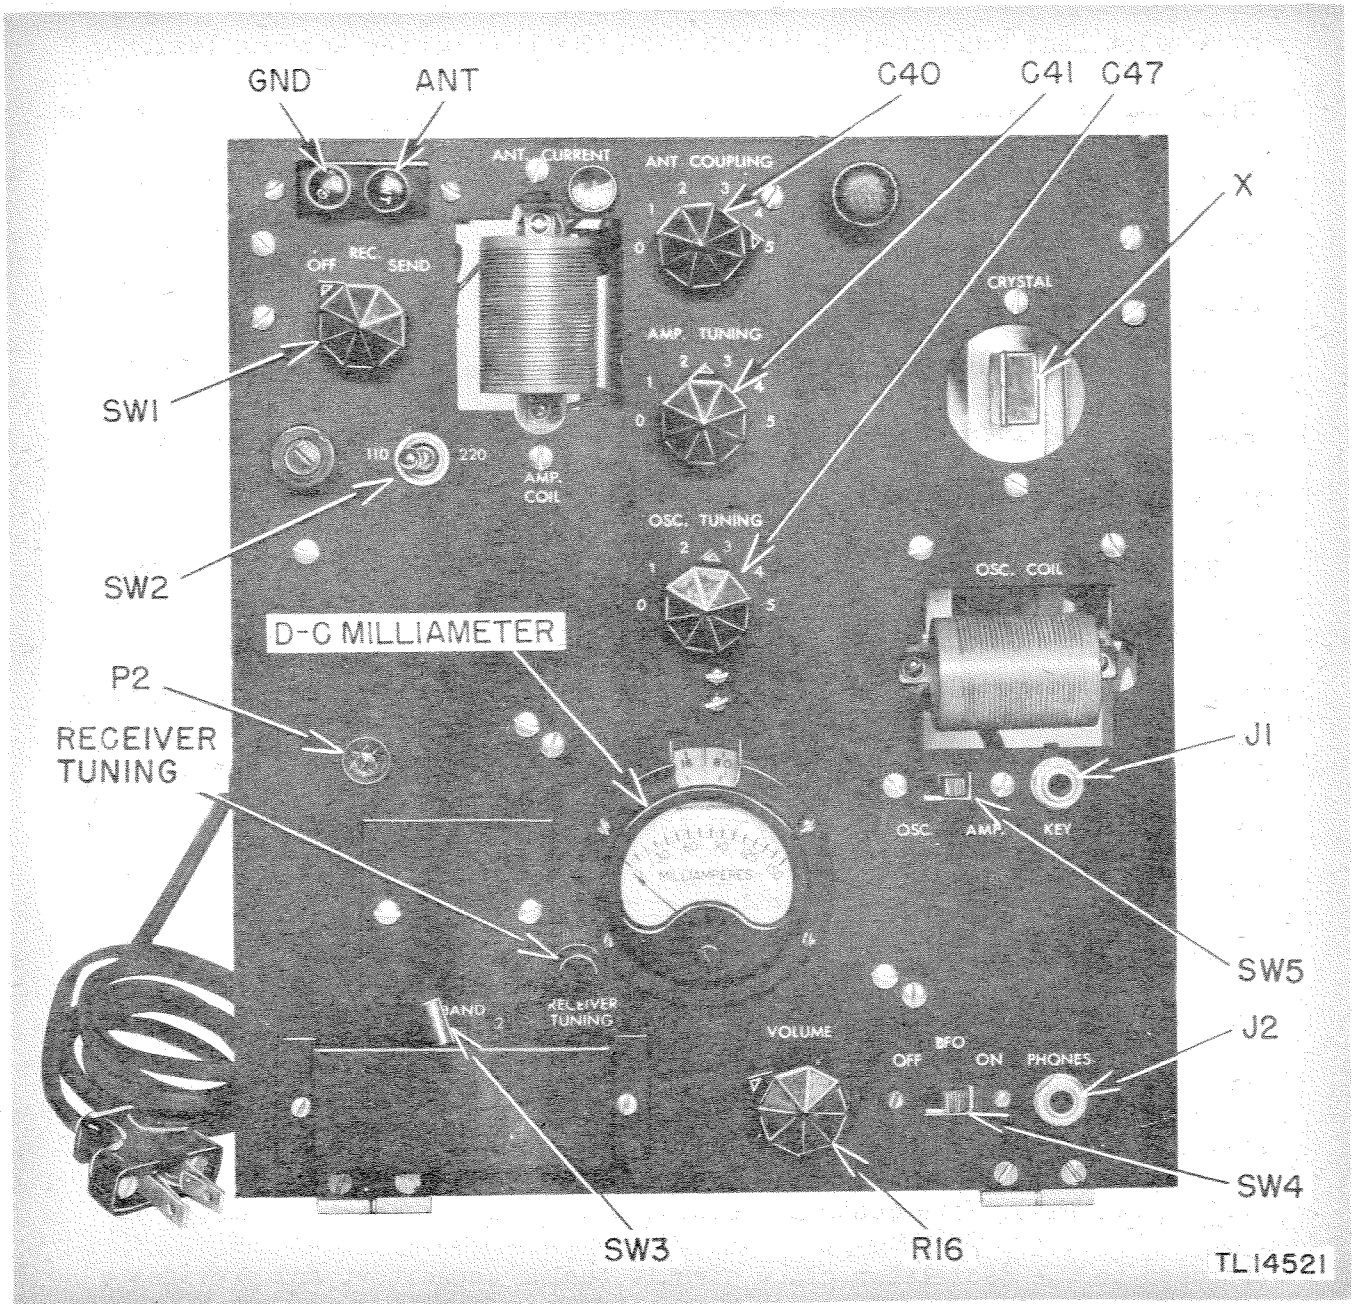

Figure 2. Radio Set AN/PRC-5, front panel details.
(1) A change from one band to another is accomplished by inserting the proper crystal and the oscillator and power-amplifier coil units into their proper receptacles on the front panel. The oscillator and amplifier coil units are completely interchangeable with each other, and the operating circuits have been designed so that only four coils are required to cover the entire range of the transmitter (par. 20c).
(2) The following transmitter controls and receptacles are located on the front panel of the transceiver unit (fig. 2):
c. Receiver. The receiver portion of the transceiver unit consists of a five-tube superheterodyne circuit arrangement, with automatic volume control (avc), a beat-frequency oscillator, and a frequency range of 4,500 to 16,000 kilocycles covered by two bands. The beat-frequency oscillator is provided for the reception of c-w signals. When the reception of voice- or tone-modulated signals is desired, this oscillator may be switched off as described below (subpar. c(4)). The following receiver controls (fig. 2) are located on the lower portion of the transceiver unit:
(1) RECEIVER TUNING. The RECEIVER TUNING control, located to the left of the d-c milliammeter in the center of the panel, controls the 3-gang variable tuning capacitor in the receiver circuits as well as the calibrated dial which is visible in the small window directly above the d-c milliammeter. This dial is calibrated directly in megacycles (mc), with
19. POWER LINE CONNECTION (fig. 2). Determine the voltage and the frequency of the source of power to be used. For Radio Set AN/PRC-5 to operate properly, the line frequency must be between 50 and 60 cycles and the line voltage must be between 110 and 120 volts or between 220 and 240 volts.
20. TRANSMITTER CRYSTAL AND COIL UNITS (fig. 2).